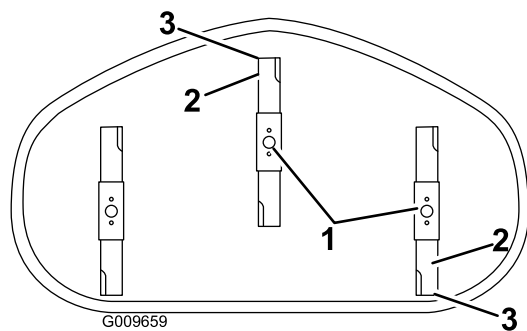

Figure 54
- Carefully rotate the blades so they are facing front to rear (Figure 54).
5. Measure from the tip of the front blade to the flat surface and the tip of the rear blade to the flat surface (Figure 54). If the front blade tip is not 1.6 to 7.9 mm (1/16 to 5/16 inch) lower than the rear blade tip, adjust the front locknut.
8. After adjustment, check the front-to-rear slope again. Continue adjusting the nut until the front blade tip is 1/16 to 5/16 inch (1.6 to 7.9 mm) lower than the rear blade tip (Figure 54).